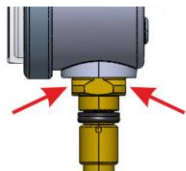

Fig. 65: Key surface
3. ➔ As soon as the contact pressure gauge is under pressure and is thus more difficult to turn, turn the contact pressure gauge on the key surface SW14 (Fig. 65) with a suitable tool until the stop in the connection.